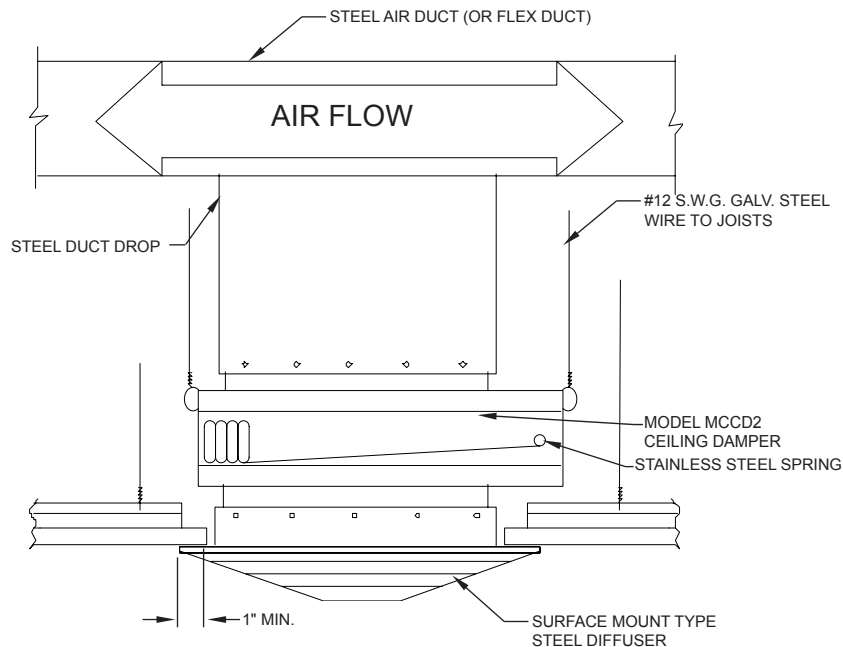

FIG. 8
4. Duct outlets should be located in the field of the ceiling membrane but where it is necessary to cut a main runner or cross tee, each cut end shall be supported by a vertical #12 S.W.G. Hanger Wire (See FIG. 8). A 1/2" clearance shall be maintained between the duct outlet and each cut end of main runner or cross tie. The duct outlet shall be located so that no more than one main runner cross tee is cut when penetrating the ceiling membrane.